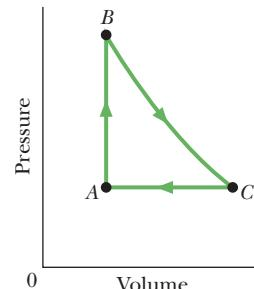

Figure 18-41 Problem 48.
**•48 GO** As a gas is held within a closed chamber, it passes through the cycle shown in Fig. 18-41. Determine the energy transferred by the system as heat during constant-pressure process  $CA$  if the energy added as heat  $Q_{AB}$  during constant-volume process  $AB$  is  $20.0 \text{ J}$ , no energy is transferred as heat during adiabatic process  $BC$ , and the net work done during the cycle is  $15.0 \text{ J}$ .